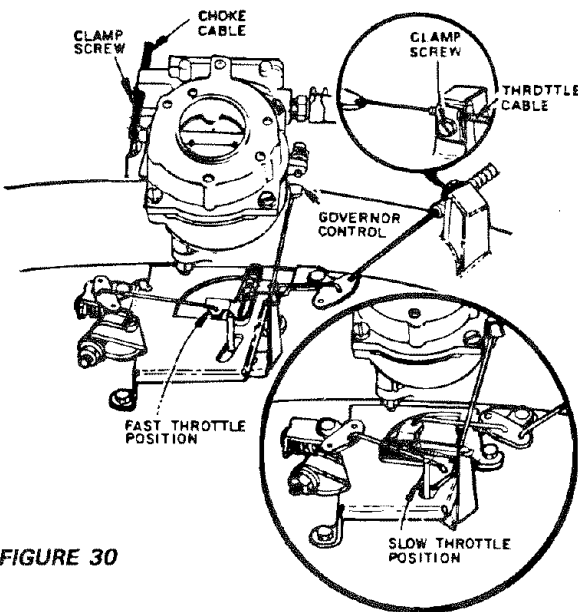

FIGURE 30
- Pull throttle cable tight (until swivel is against side of quarter circle). Fig. 30. Retighten casing clamp screw.